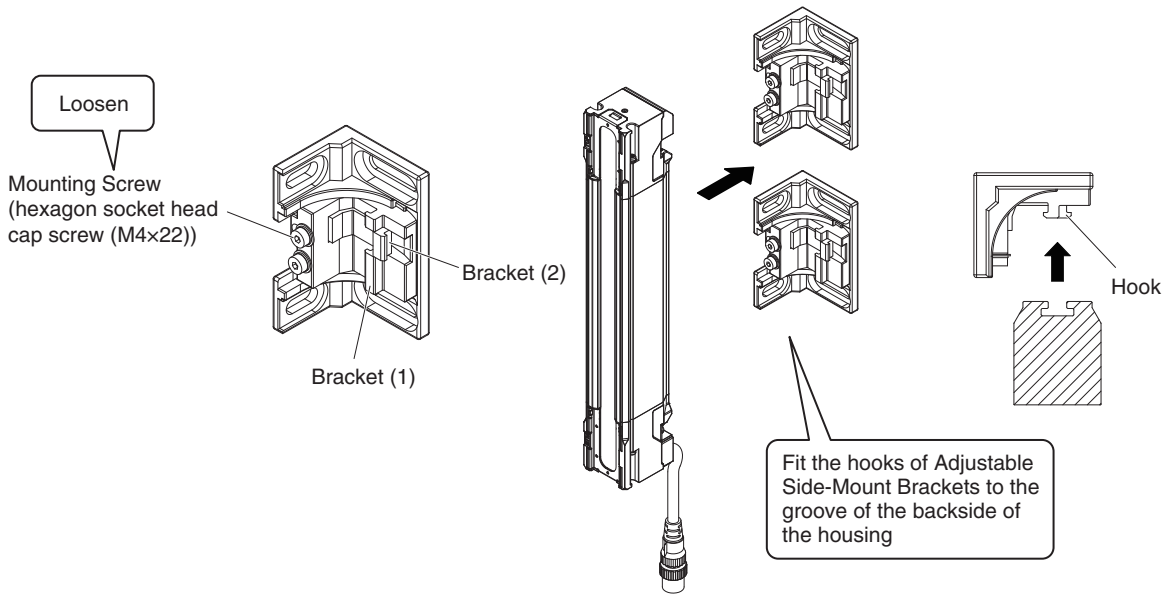

Fig. 2
2. Fully loosen the Mounting Screws (hexagon socket head cap screw (M4×22)). Fit the Brackets (1) and (2) to the backside of the sensor housing so that the groove of the backside of the housing receives the hooks of the Brackets (1) and (2). (Fig. 2)